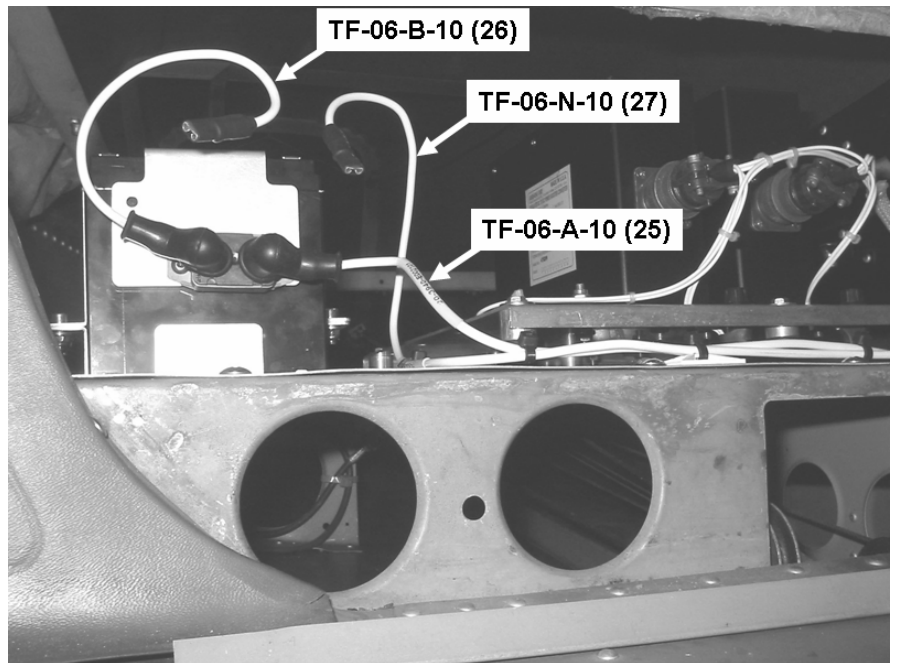

Figure 1 Backup battery (Example: version 14V)
5. Wiring backup battery to relay board (Cessna (F)172 F,G,H,I,K,L,M,N,P) or power junction box (Cessna 172 R,S) (see figure 1)